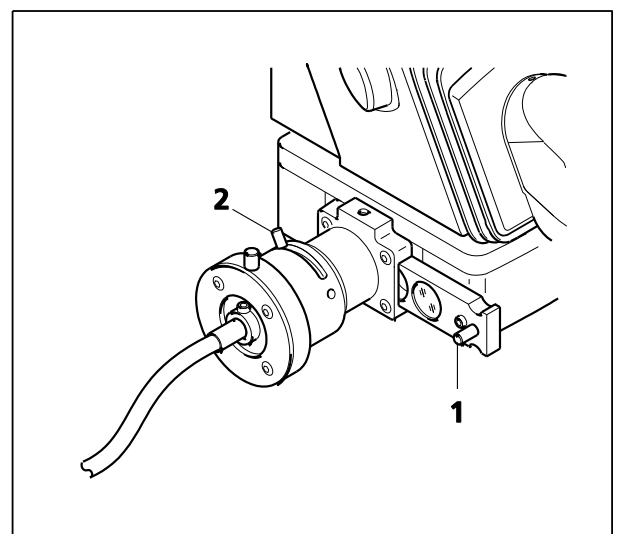

Fig. 32 Adjusting the vertical illuminator
Before swinging in another filter block, make sure to pull the slider (Fig. 32/1) on the vertical illuminator always to the frontmost position (blocking position).
- Pull slider (Fig. 32/1) on PentaFluar vertical illuminator into the frontmost position (blocking position).
- Push the slider on the PentaFluar vertical illuminator (Fig. 32/1) into the mid-position (blank aperture) or the backmost position (position with red attenuation filter).
- Open the iris diaphragm (Fig. 32/2) of the vertical illuminator completely by pushing the lever fully back.